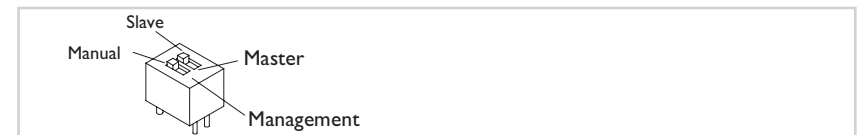

Figure 6: Configuration Switch
3. Set the power supply configuration switch to the desired positions. See Figure 6.